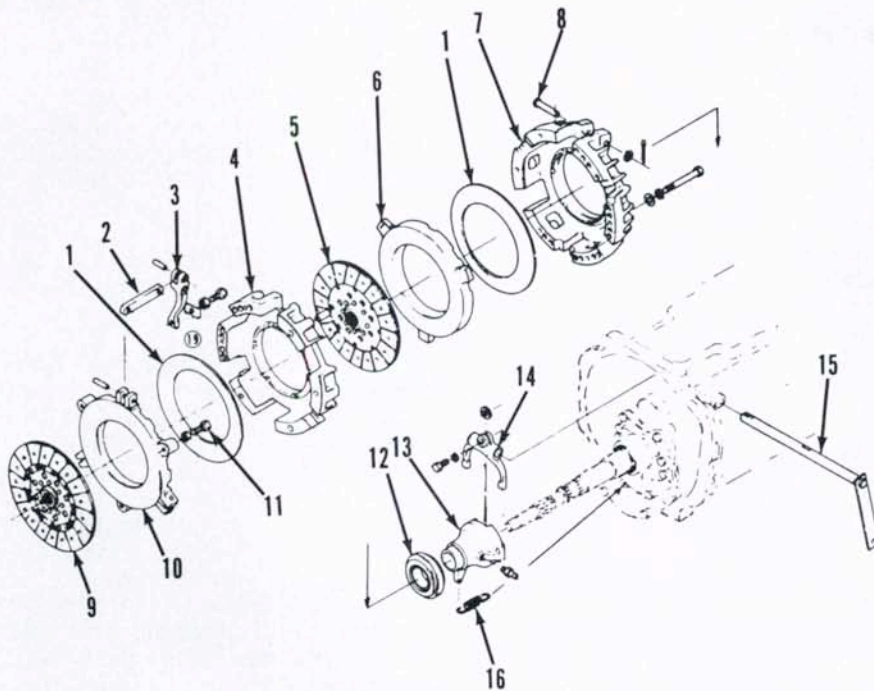

Fig. 94—Exploded view of dual plate clutch assembly used on some models.
66. An exploded view of dual plate clutch assembly used on some models is shown in Fig. 94. Before removing clutch assembly from flywheel, scribe match marks across clutch assembly and flywheel. Clutch assembly is dynamically balanced and should be reassembled in its original position.